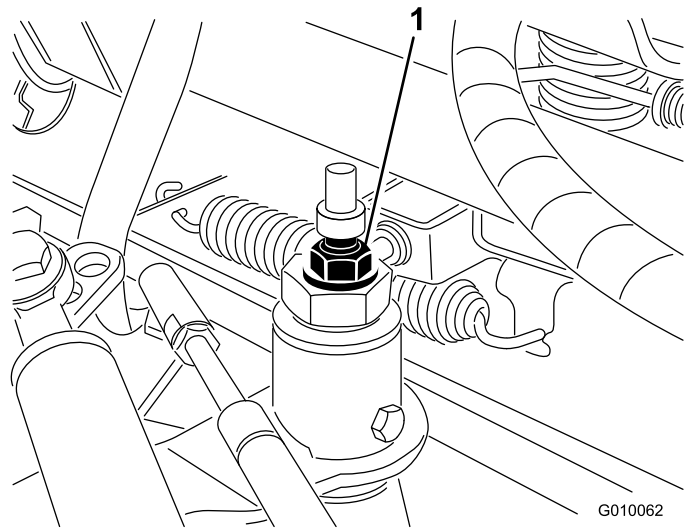

Figure 54
3. Loosen the locknut on the traction adjustment cam (Figure 54).